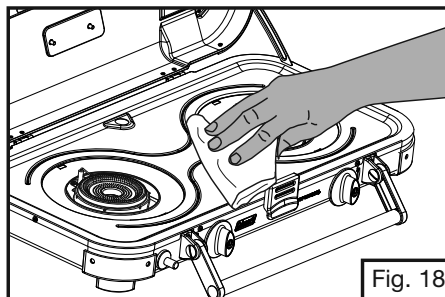

Fig. 18
- Wipe clean with soft cloth and mild dish detergent. Do not use abrasives. (Fig. 18)